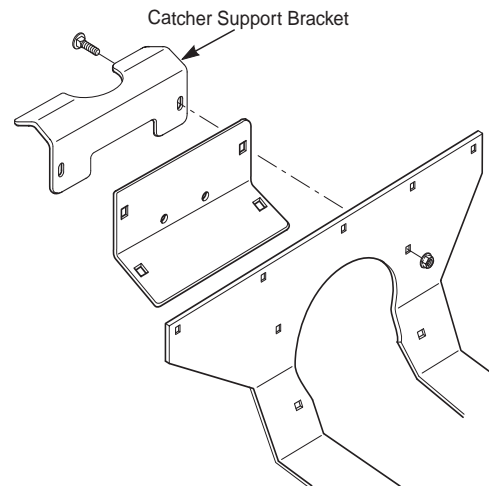

FIGURE 4-5
14. Install the catcher support bracket onto the rear of the machine and secure with 5/16-18 x 1" carriage bolts (p/n 04003-04) and 5/16-18 serrated flange nuts (p/n 04019-03). See Figure 4-5.